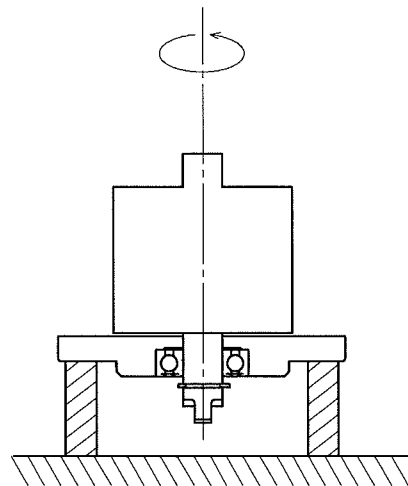

Fig.10
- ③ Remove Cylinder(69) and Vanes(70).
- ④ Take off Rotor(67) from the vice. Place Rotor(67) with End plate(65) facing downwards as shown in Fig. 10, and check Rotor rotates smoothly. If smoothly rotating, do not remove Rotor(67) from End plate(65).